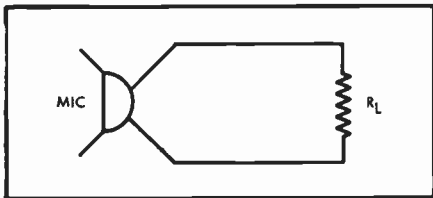

Fig. 1
A. Figure 1 shows the normal wiring of such a device. R_L is shown in parallel with the device, and its value is so chosen that it will be equal to the impedance of